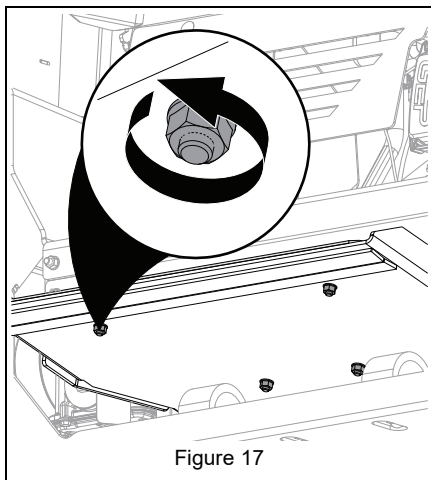

Figure 17
1. Loosen operator platform mounting hardware. See Figure 17.